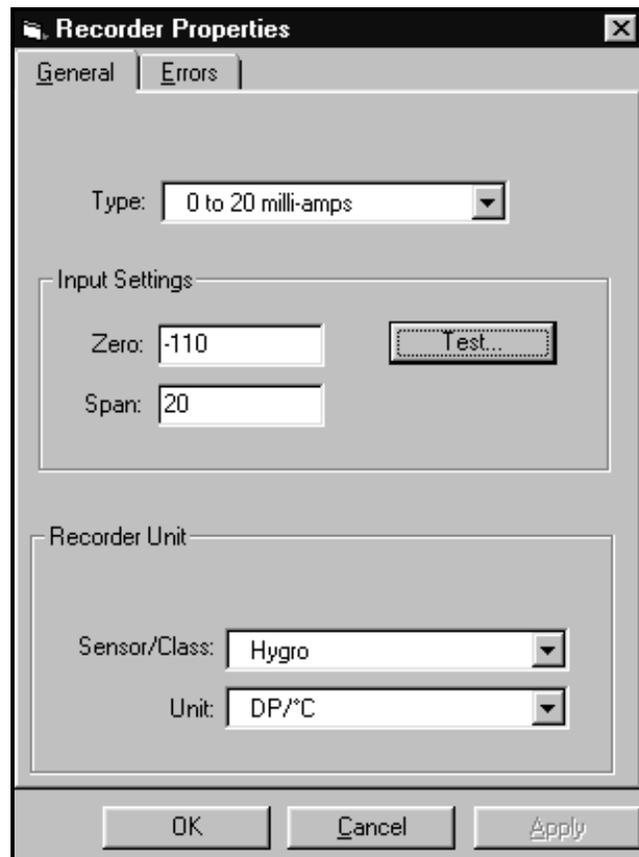

Figure 4-5: Recorder Programming Window
2. From the channel menu, click on the “*Recorders*” option, and then on “*Recorder A*” or “*Recorder B.*” The Recorder Properties window appears, as shown in Figure 4-5 below.
1. To test the recorder outputs, click on the [Test] button in the “Recorder Properties” window (see Figure 4-5 on page 4-9). A message appears: “This will suspend Recorder #[X] on Channel [X]. Are you sure you want to test this recorder?” Click on [OK] to continue.